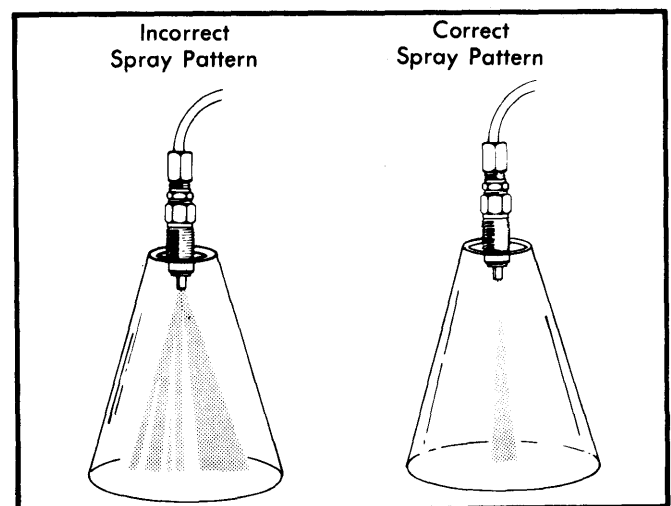

Fig. 7 Nozzle Spray Patterns
3) Build nozzle pressure slow enough to determine exact minimum opening pressure of nozzle. Minimum opening pressure is 870 psi. When nozzle releases pressure, note spray pattern and compare with examples shown. If incorrect, or if a liquid stream, replace nozzle. See Fig. 7.